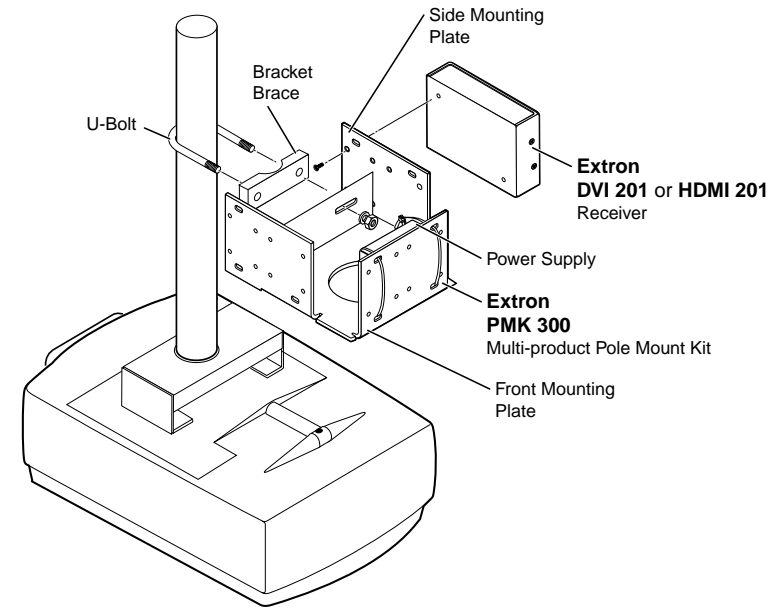
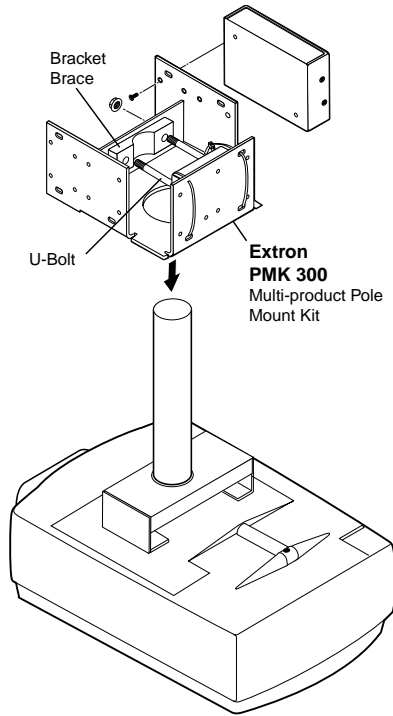

Figure 2-5 — PMK 300 projector mounting a receiver
Figure 2-6 — Projector pole on the inside
2. Mount the receiver to one of the bracket's three mounting plates using two of the supplied 4-40 x 3/16" screws in opposite (diagonal) corners to secure the device to the bracket. It can be vertically mounted facing either up or down (figure 2-5).
The PMK 300 has a hole in the bottom plate that allows the projector pole to be inserted through the center of the plate (figure 2-6), rather than outside of the plate (figure 2-5). To install the PMK 300 in this configuration, slide the bracket up from the bottom of the pole before the projector is installed on the pole.